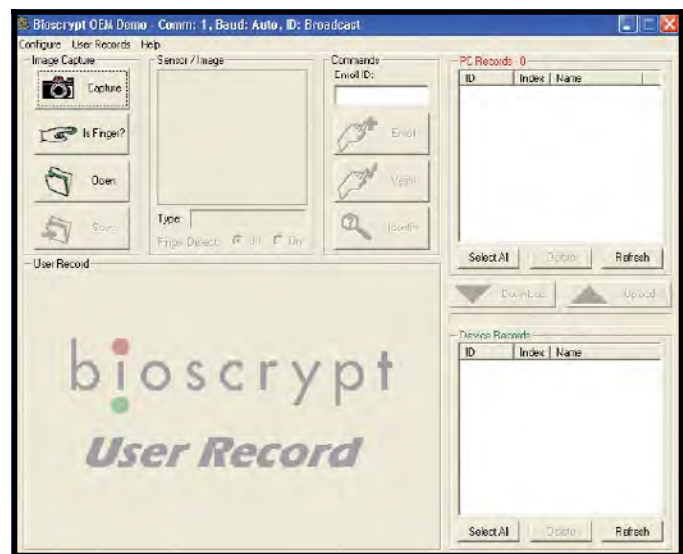

Figure 28. Bioscrypt, home screen
- VII. An error message may appear when first opening the program. Disregard this message and click the “OK” button. The home screen will become available (see Figure 28).